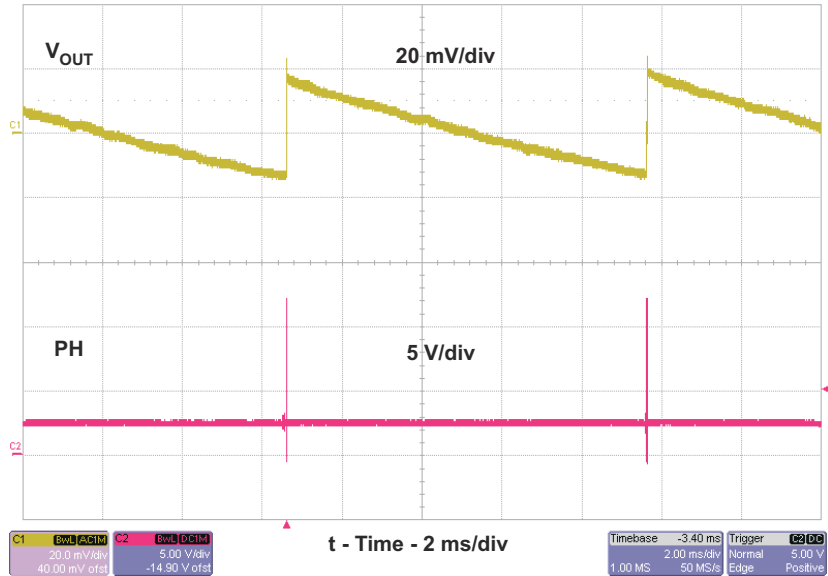

Figure 2-10. TPS54332EVM-416 Eco-mode Operation
Figure 2-10 shows Eco-mode operation, channel 1 (C1) shows the output voltage while channel 2 (C2) shows the switching node (PH).